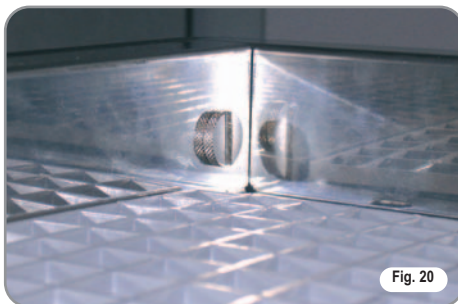

Fig. 20
- loosen the two top screws (Fig. 20);